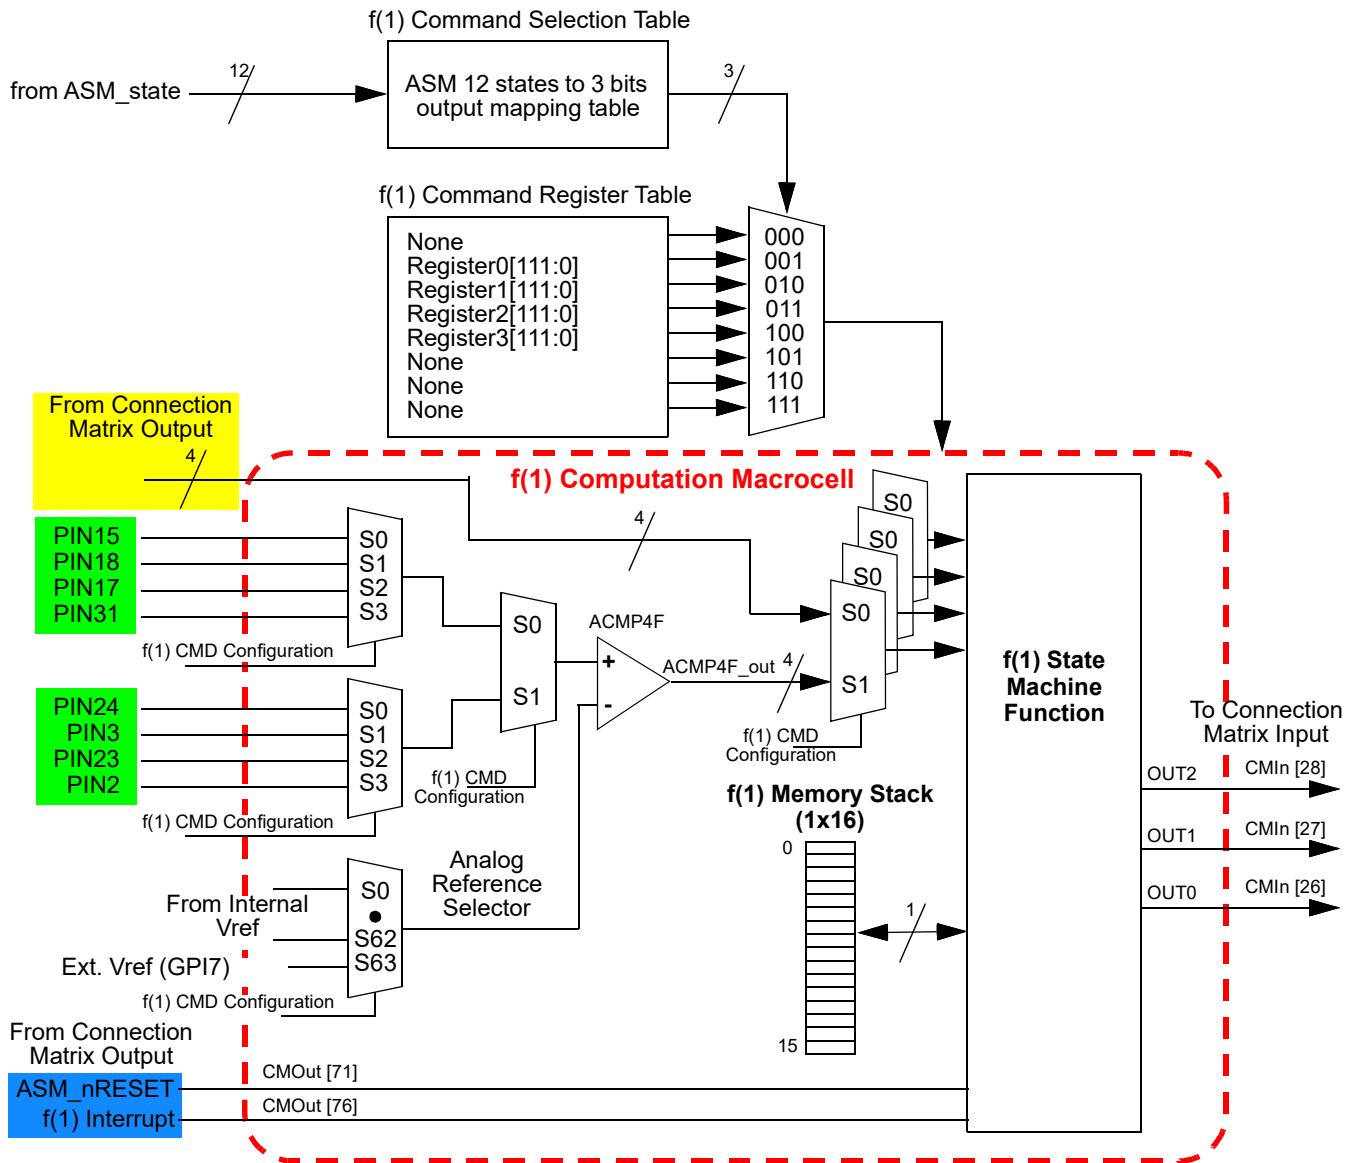

Figure 118: f(1) Computation Macrocell Input Signals
17.3 F(1) COMPUTATION MACROCELL INPUT SIGNALS
The f(1) Computation Macrocell has 6 digital input signals, ASM\_nReset, f1\_Interrupt, and four inputs from Connection Matrix outputs. An active signal on either of the first 2 inputs will immediately halt any command execution for the f(1) Computation Macrocell, and will immediately relinquish control back to the ASM macrocell. The ASM\_nReset is a level sensitive signal, and active low. The f1\_Interrupt is a level sensitive signal, and active high. These signals are shown in Figure 118, highlighted in blue. Also there are 4 digital inputs from the Connection Matrix, which can be routed to any Connection Matrix outputs from the f(1) Commands. These signals are shown on Figure 118, highlighted in yellow.